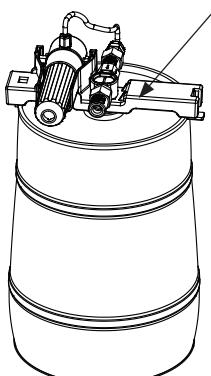

Figure 19
4. Remove the dispenser from the empty beer keg (Figure 19).